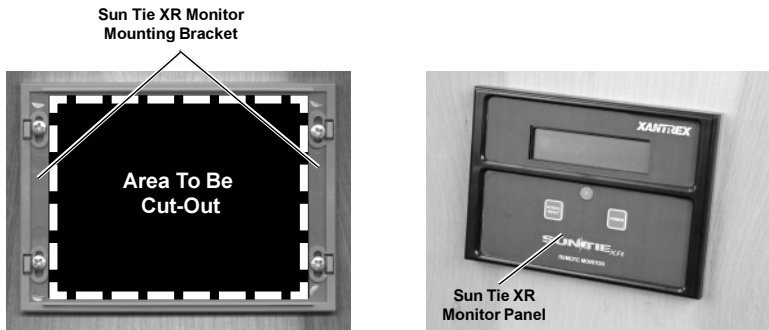

Figure 2-4
- Mount the bracket using the screws (and anchors if necessary) supplied (Figure 2-4). Do not overtighten the screws.